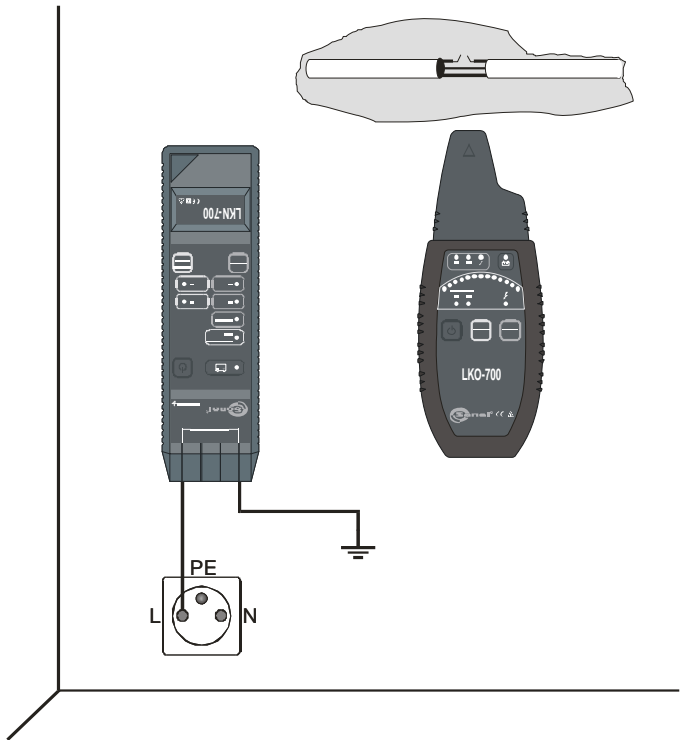

Fig.8 Localization of conductors and breaks in cables
- Connect the second socket to the phase wire in a power point, switch etc. (Fig. 8).